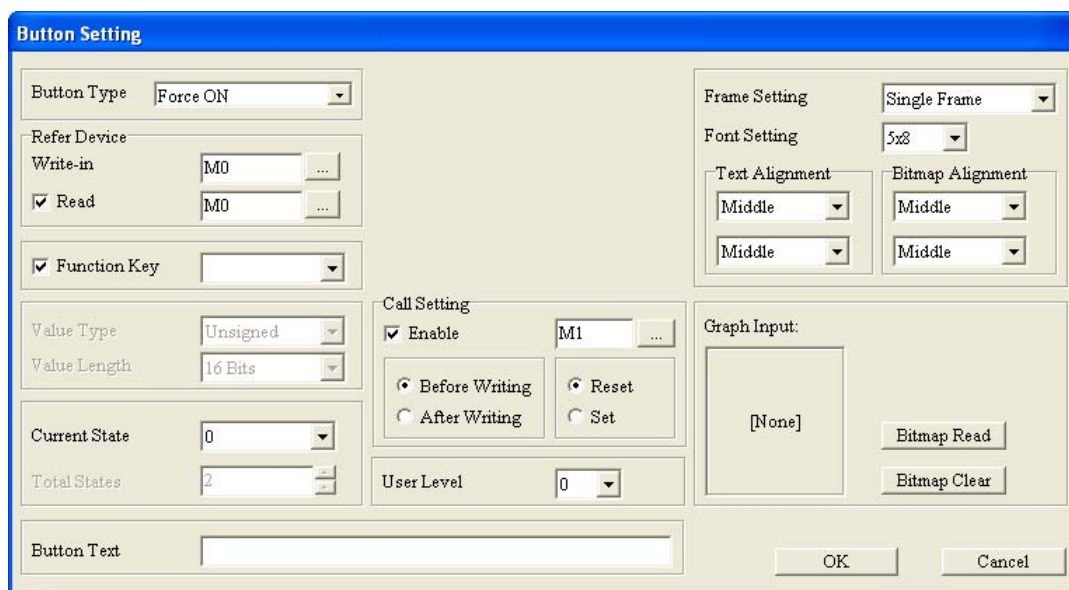

Figure 4-54 **Button Setting** window
- If **Force ON**, **Force OFF**, **Pulse ON**, **Pulse OFF**, **Push On/Off**, or **Momentary** is selected, the **Button Setting** window will be as shown in Figure 4-54. If users select **Momentary**, they can not select a user level.